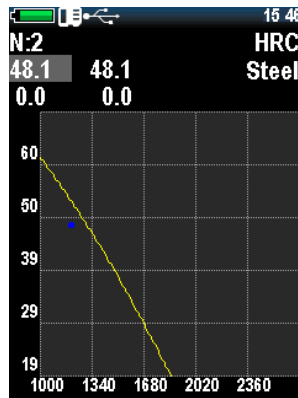

Figure 2.37 – Calibration measurements
5. Moving the cursor with <  > key, select the first line. Make about five measurements on the first reference sample, the device will show the average value of the series according to the current calibration (Figure 2.37). If get obvious error of measurement press <  > key, and the last measurement will be deleted from the series.